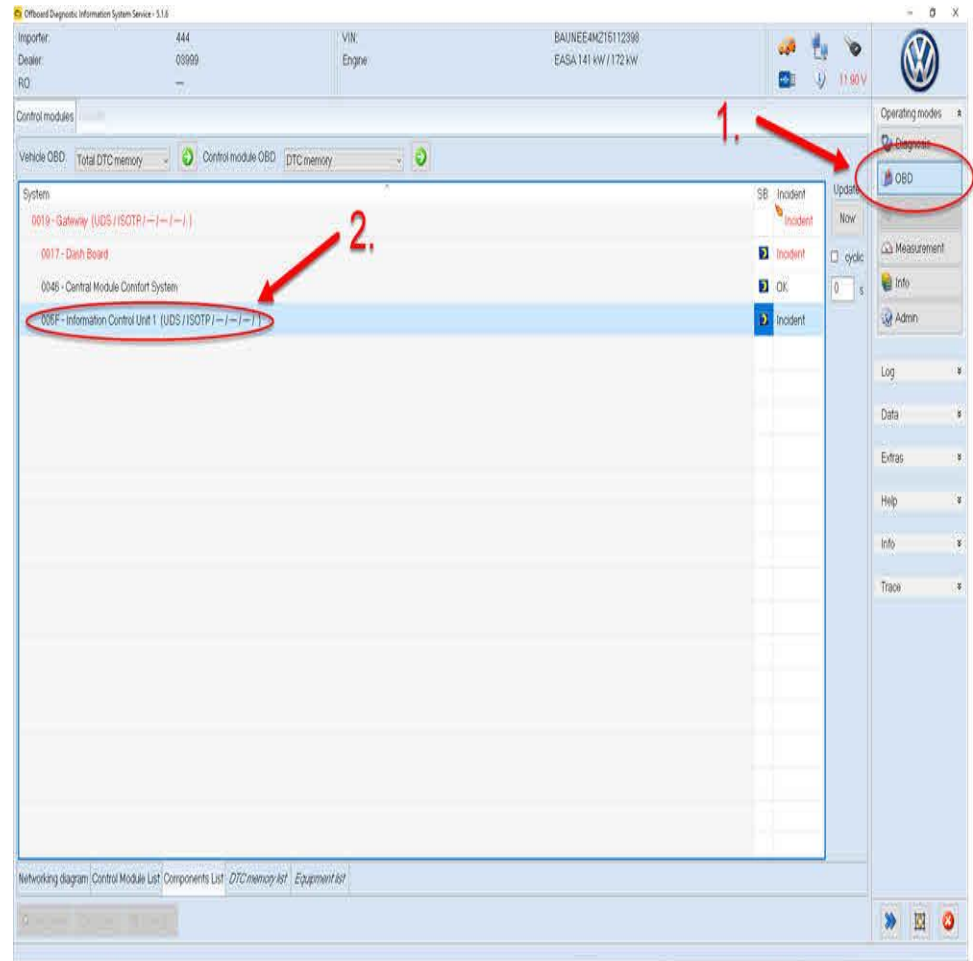

Figure 2. Select the 005F module.
1. In ODIS, please select “OBD” (1). Then select the 005F – Information Control Unit 1 (2) (Figure 2).